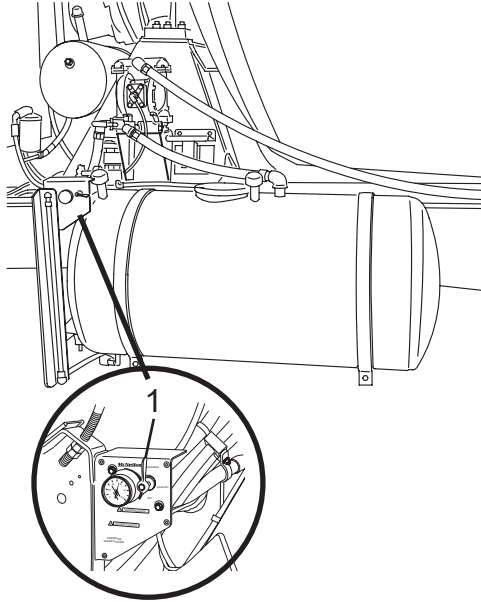

Figure 90
4. Turn the air pressure control valve (Figure 90, Item 1) to the PRESSURIZE position to start the pump.
To stop the pump, turn the air pressure control valve (Figure 90, Item 1) to the OFF position.